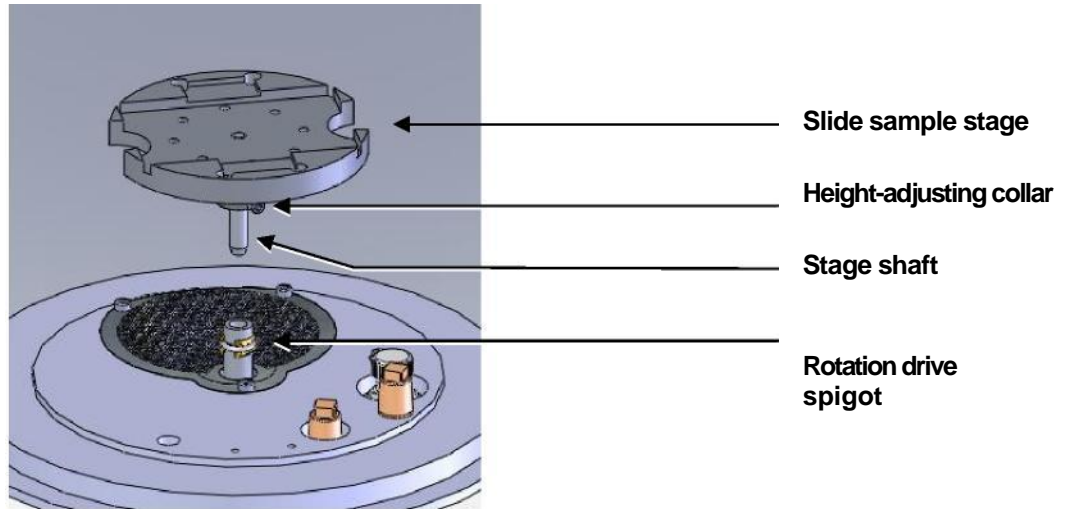

Figure 7-10. Slide stage
- b. With a twisting motion, push gently down until the collar around the shaft rests on top of the drive spigot (see Figure 7-10).